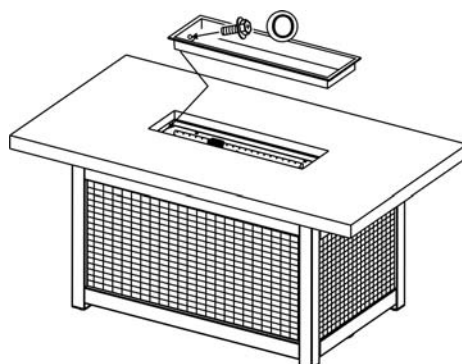

Figure 4
- With the help of another person, turn the table in the upright position. Place the burner pan protective ring into the firepan/burner assembly as shown in Figure 4. Align the holes in the burner pan protective ring with the pre-drilled holes on the firepan/burner assembly. Secure the burner pan protective ring to the firepan/burner assembly by using the two M4 screws as shown in Figure 4.